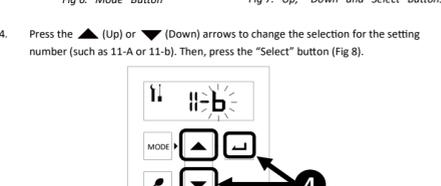

Fig. 7. "Up", "Down" and "Select" Buttons
- Press the **▲** (Up) or **▼** (Down) arrows to select a parameter setting. Press the "Select" button (Fig. 7).